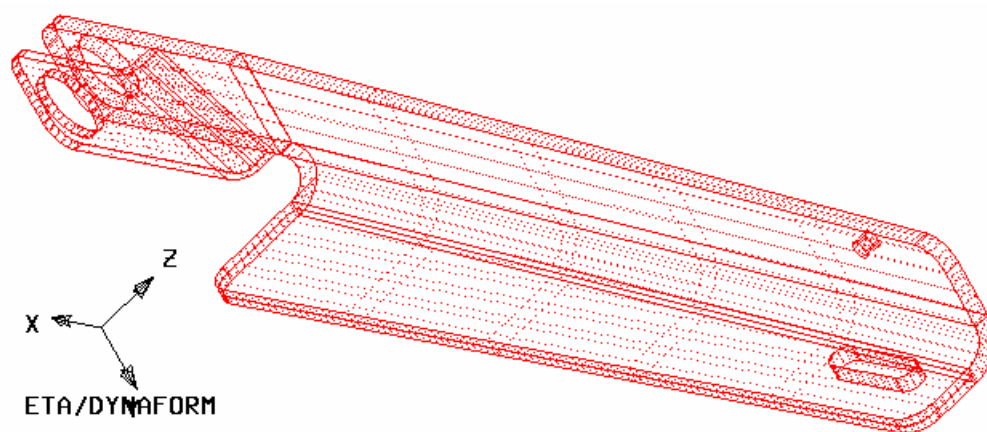

Figure 5.2.8 Select all surfaces used to generate mid surface
1. Once this function is selected, the SELECT SURFACE dialog box appears and enables the user to select all the surfaces of the solid part. See Figure 5.2.8.